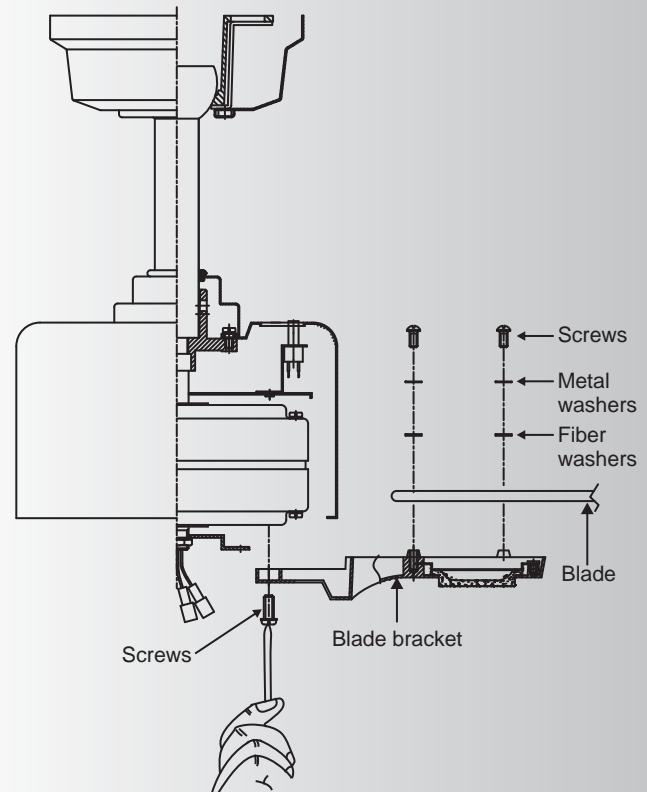

Fig. 16
**Step 1.** Attach the blade to a blade bracket using the screws, metal washers and fiber washers provided. (Fig. 16)
**Step 2.** Attach each blade assembly to the motor using the "Pre-Installed" mounting screws in the blade bracket. (Fig 16)